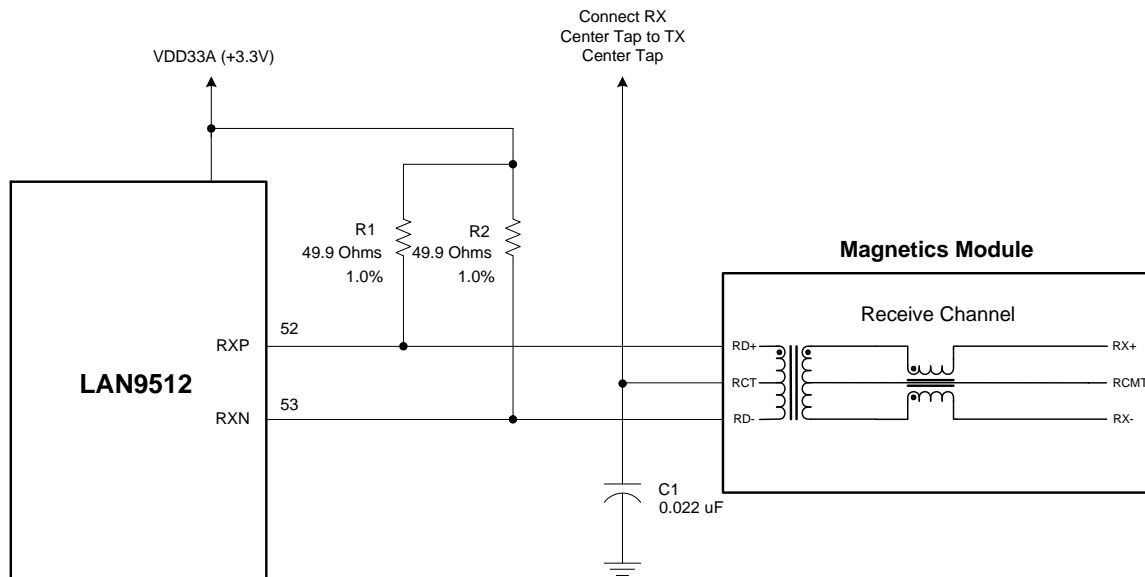

Figure 2 - Receive Channel Connections and Terminations
6. For Receive Channel connection and termination details, refer to Figure 2.